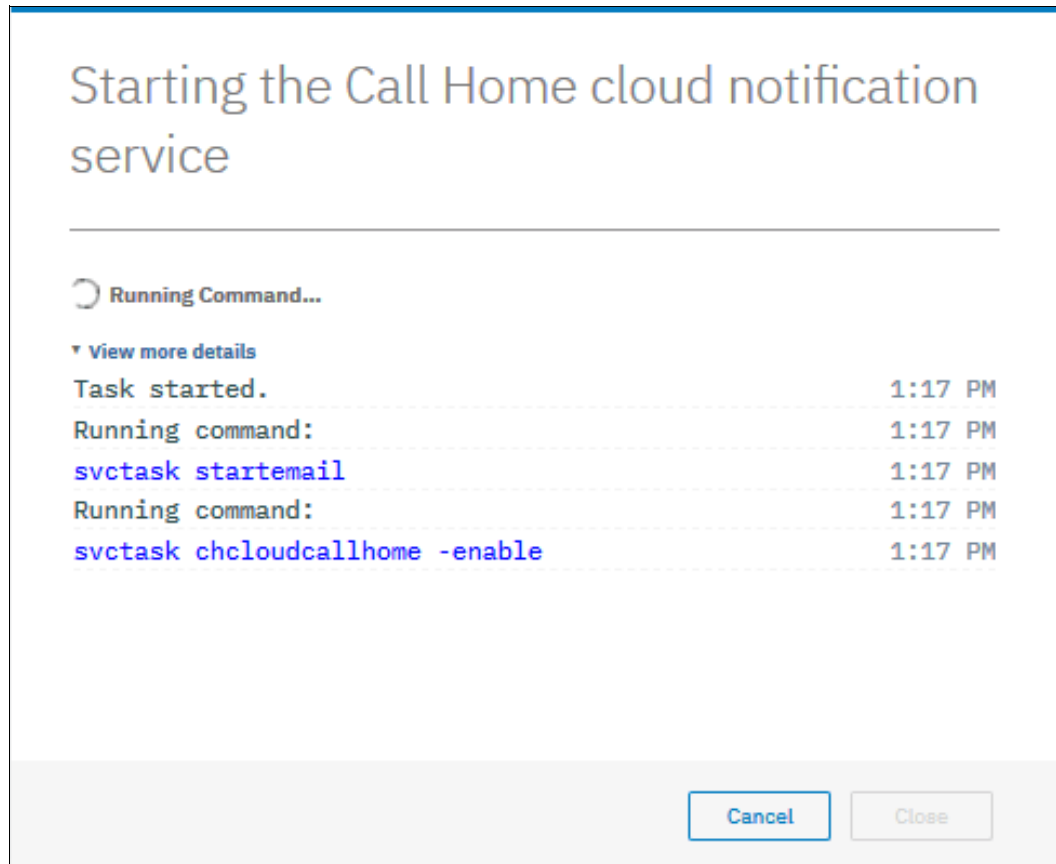

Figure 12-76 CLI to enable Call Home
- Click **Finish** to enable the Call Home function (see Figure 12-76).